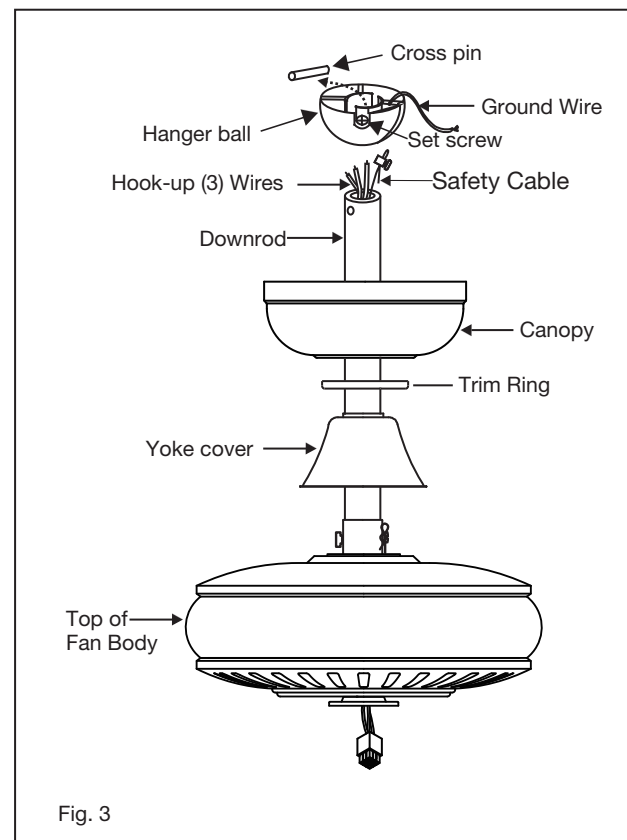

Fig. 3
- 1 Slip the yoke cover, trim ring and canopy onto the downrod. (Fig. 3)
A DOWNWARD airflow creates a cooling effect as shown in Figure 3. This allows you to set your air conditioner on a warmer setting without affecting your comfort.